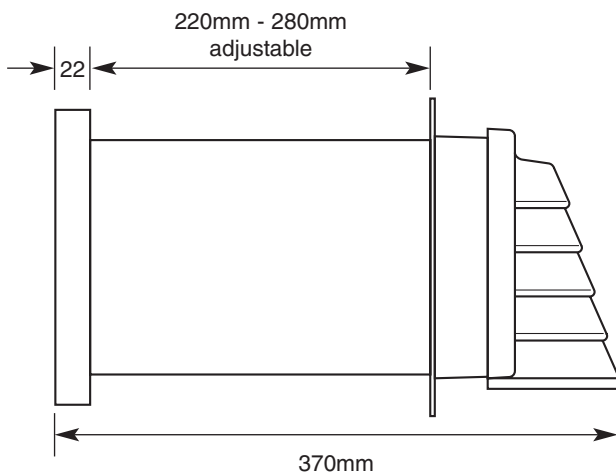

Fig. 3
1. The unit is designed for installation in external walls with a thickness of up to 280mm (Fig. 3). For wall thicknesses above 280mm, an extension kit (Ref. EXT100) must be used.